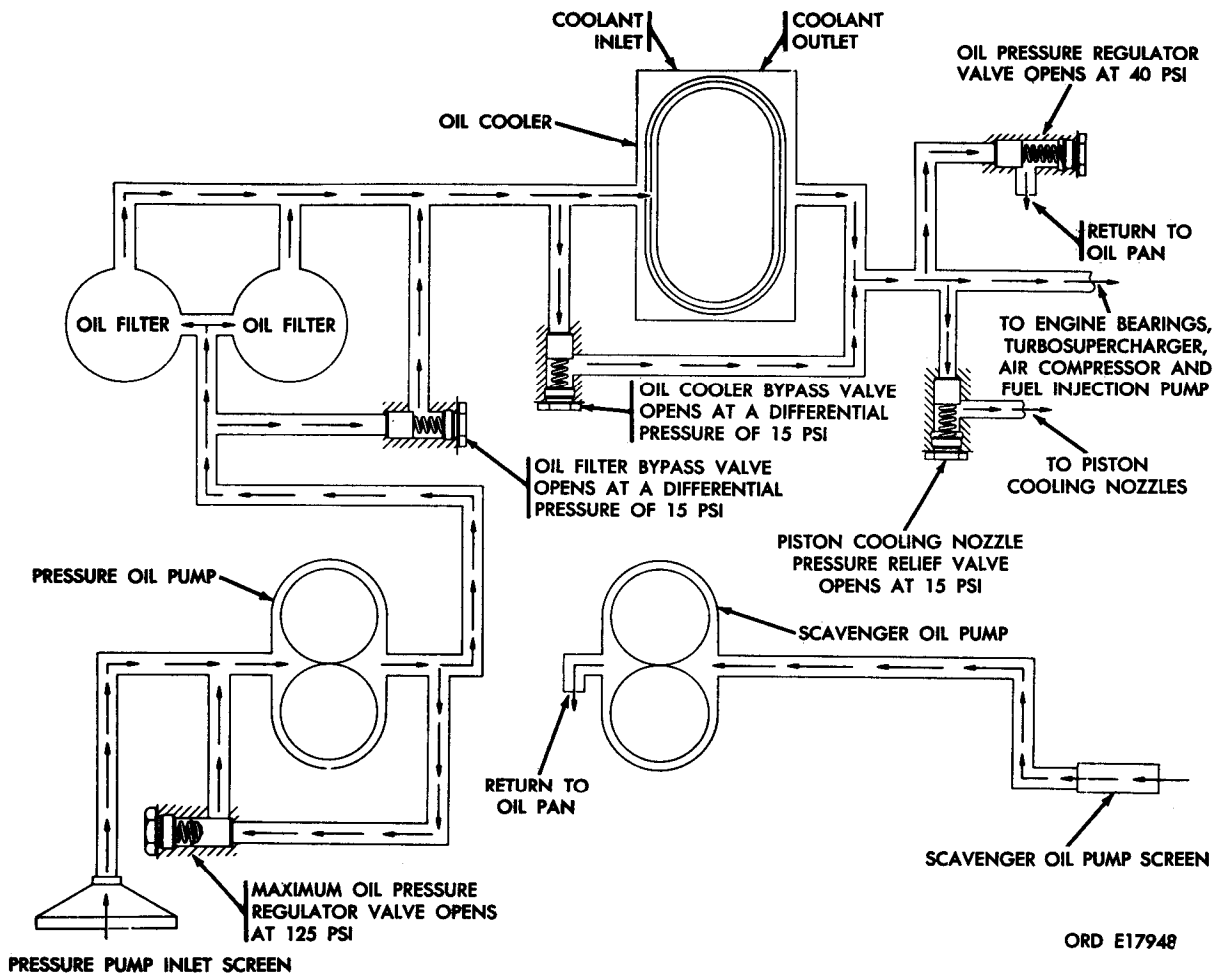

FIGURE 19. ENGINE OIL FLOW CIRCUIT DIAGRAM.
**a. General.** The engine has a full-pressure lubricating system. The pressure system insures a continuous delivery of oil to all engine moving parts regardless of the angle at which the vehicle may be inclined. The oil flow is shown on figure 19.
**c. Oil Filters.** The engine has two replaceable element-type oil filters (fig. 19). Both oil filters are identical and interchangeable. The dual unit oil filters are mounted on the oil cooler and oil filter housing assembly at the left side of the engine. Pressurized lubricating oil is forced through the filters before entering the oil cooler and engine lubricating system. The oil filter bypass valve is located below the front oil filter. This valve routes oil directly to the oil cooler if the oil filters become clogged. The bypass valve opens at a differential pressure of 15 psi.